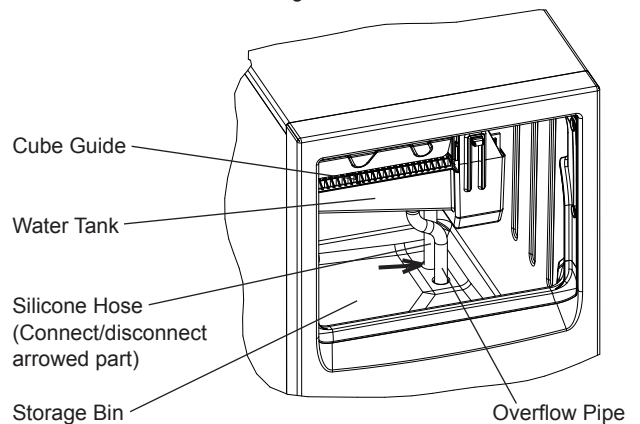

Fig. 5
- Disconnect the silicone hose to drain the water from the water tank. Reconnect the silicone hose back in its correct position after all of the water has drained. See Fig. 5.